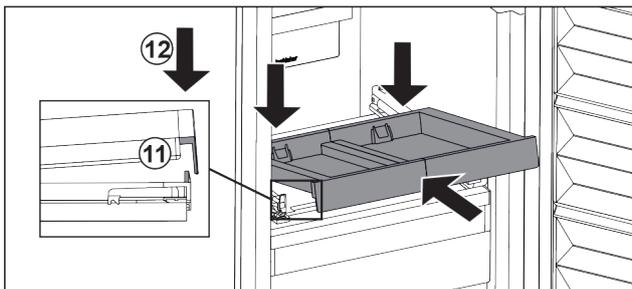

Fig. 32
- ▶ Slide in at an angle. Make sure that the stop is behind the lug on both sides. *Fig. 32 (11)*
- ▶ Lower the pull-out board at the front. *Fig. 32 (12)*